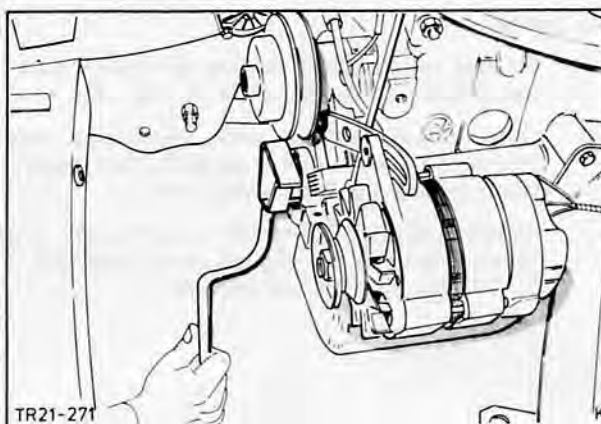

Fig. 202. Remove oil seal using Special Tool 21-051
3. Remove crankshaft oil seal using Special Tool 21-051 as shown in Fig. 202.